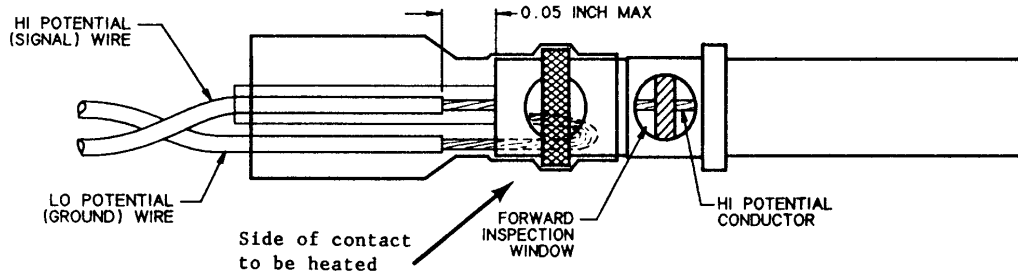

Figure 5-6. Inserting Twisted Pair Conductors Into Contact
3. Push both conductors into the contact until they are fully inserted as shown in Figure 5-6.